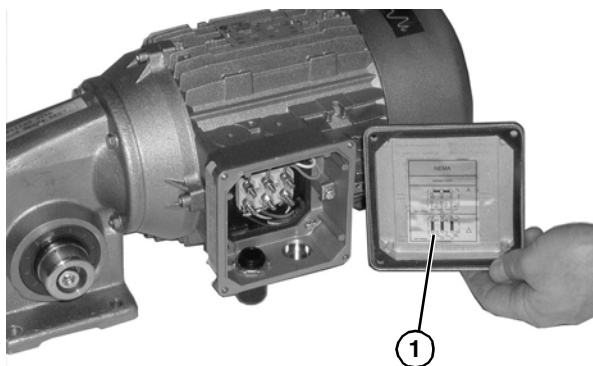

Figure 55
2. Refer to the wiring diagram (Figure 55, item 1) on the inside of the junction box cover.